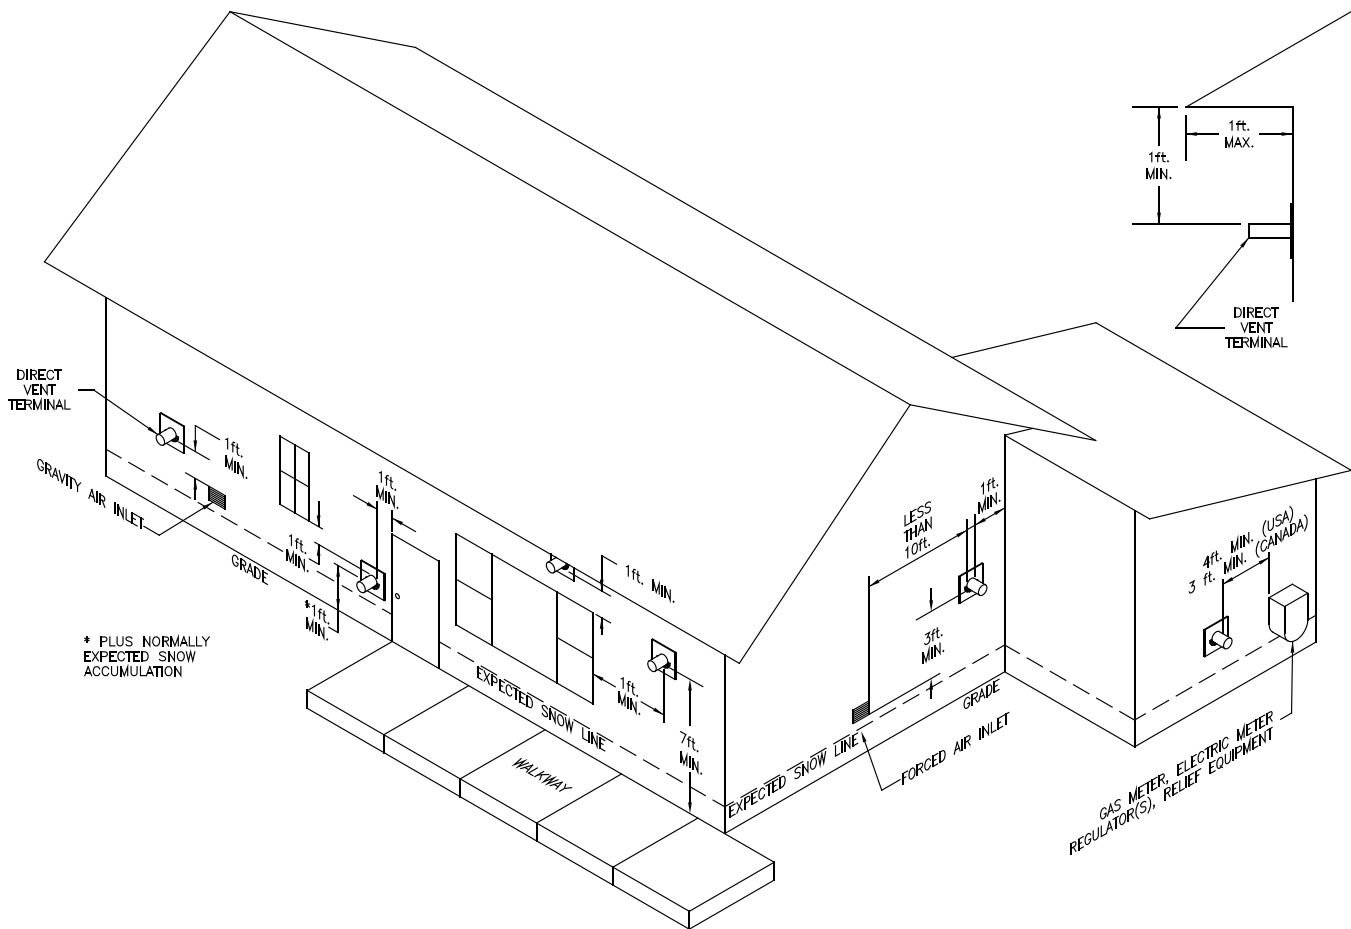

Figure B-2: Approved Terminal Locations
4. Support the piping to maintain vent location, prevent sag and prevent accumulation of condensate. The vent and/or air intake piping must be adequately supported with straps or supports with a maximum spacing of five (5) feet on horizontal runs.
8. Locate the vent terminal per these restrictions and Figure B-2: